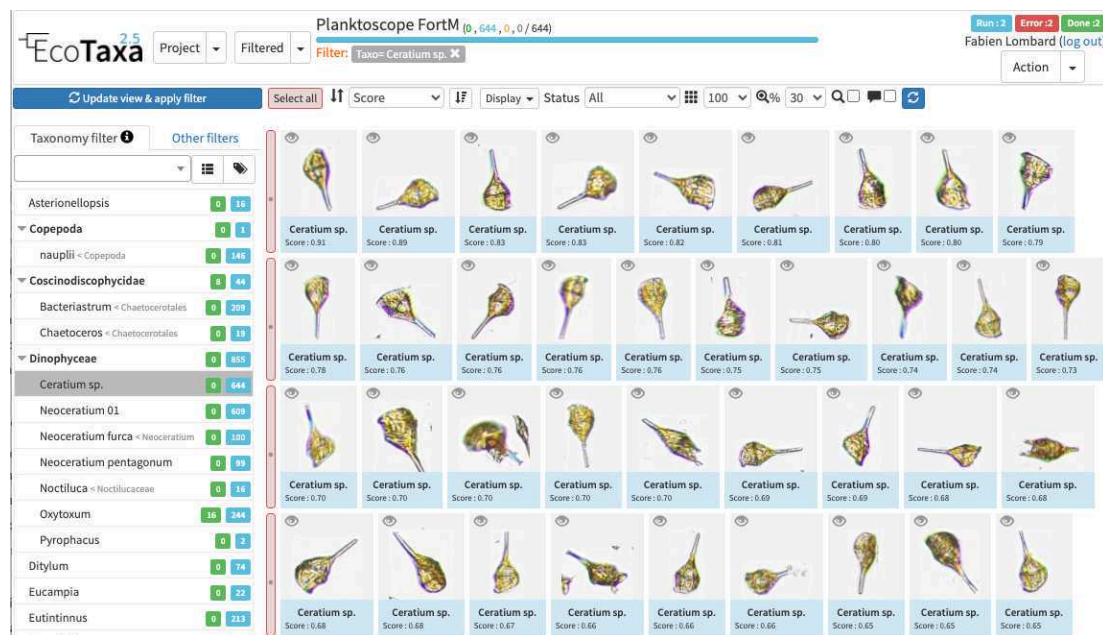

Figure 16: Example of images sorted by score of prediction
- Click on "Start prediction task". Once done, images have the status "Predicted". Each image has a "Score" that represent the reliability of the prediction (Fig.16). It is therefore a good filter to use when you want to validate a large number of images quickly to then launch a prediction with your own project. Do not hesitate to launch a prediction as soon as you have validated most of the images with a high score.